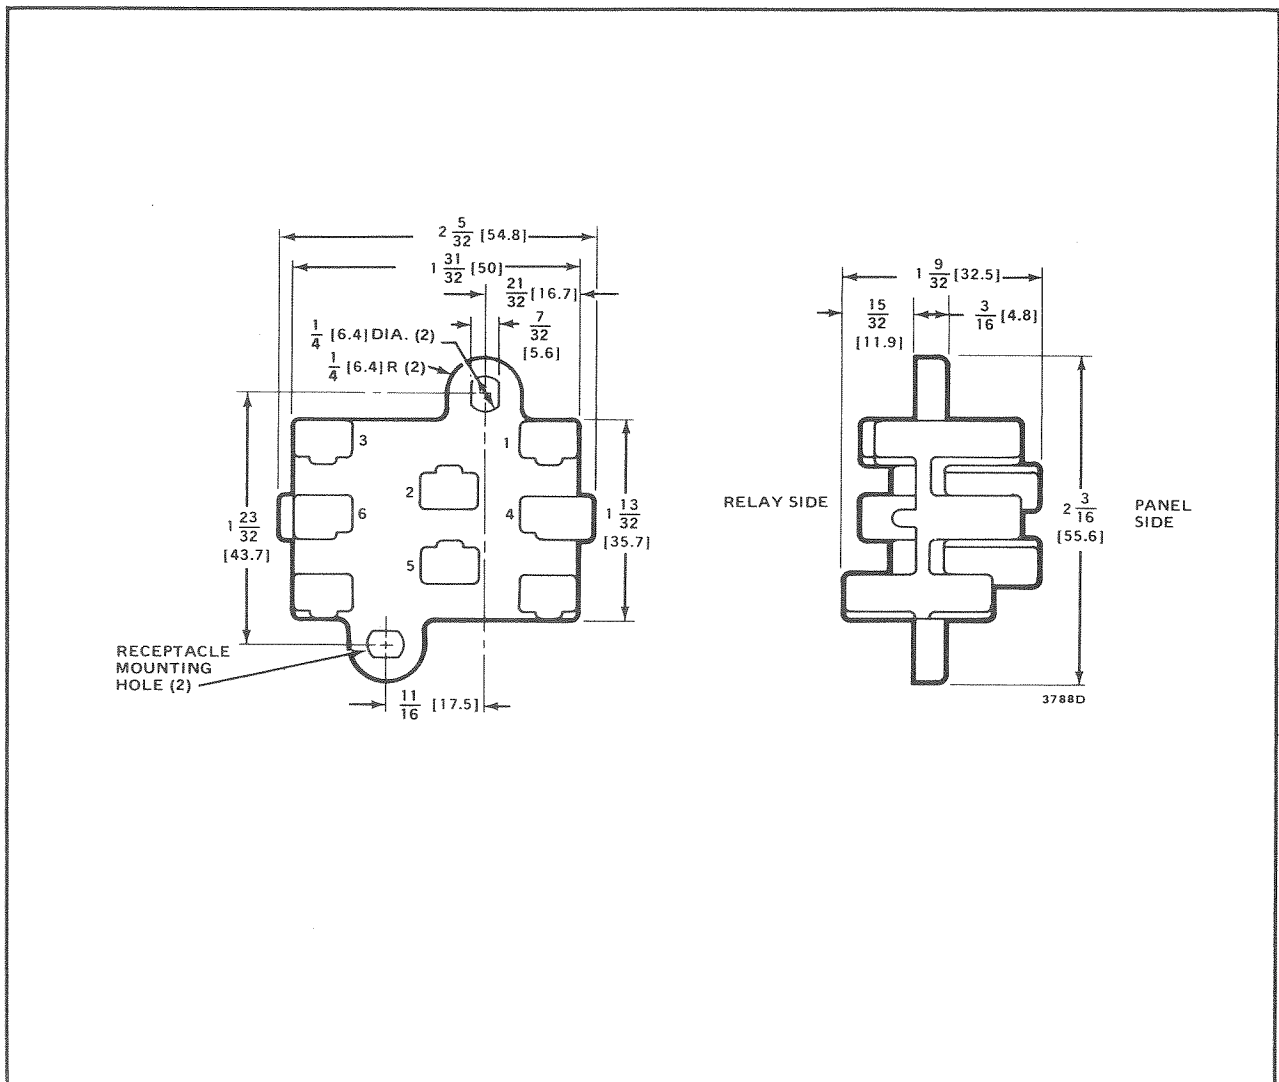

FIG. 2—DIMENSIONS OF WIRING RECEPTACLE.
2. 4074BVJ Receptacle with 8 color-coded plug-in leadwires and retaining bail, for panel mounting applications; see Fig. 2.